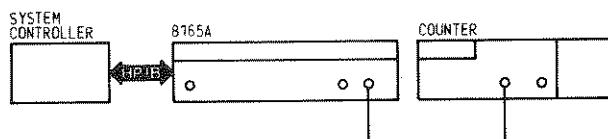

Figure 4-14. Test Setup for HP-IB Operation
1. Connect the equipment as shown in Figure 4-14.